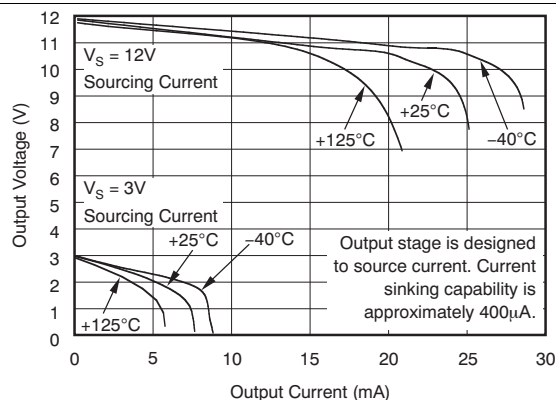

Figure 7. Positive Output Voltage Swing vs Output Current
(1) Total output error includes effects of gain error and V_{OS} .
(2) For details on this region of operation, see the Accuracy Variations as a Result of \$V_{SENSE}\$ and Common-Mode Voltage section.
(3) See Typical Characteristic curve Output Swing vs Output Current, Figure 7.
(4) Specified by design.